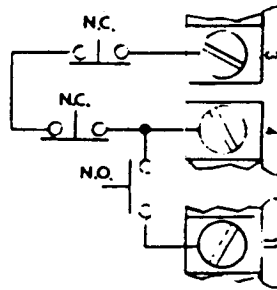

Figure 1.
- Ch. 1 - Channel 1 will operate with normally-closed (N.C.) and/or normally-open (N.O.) contacts. As shown in Figure 1.